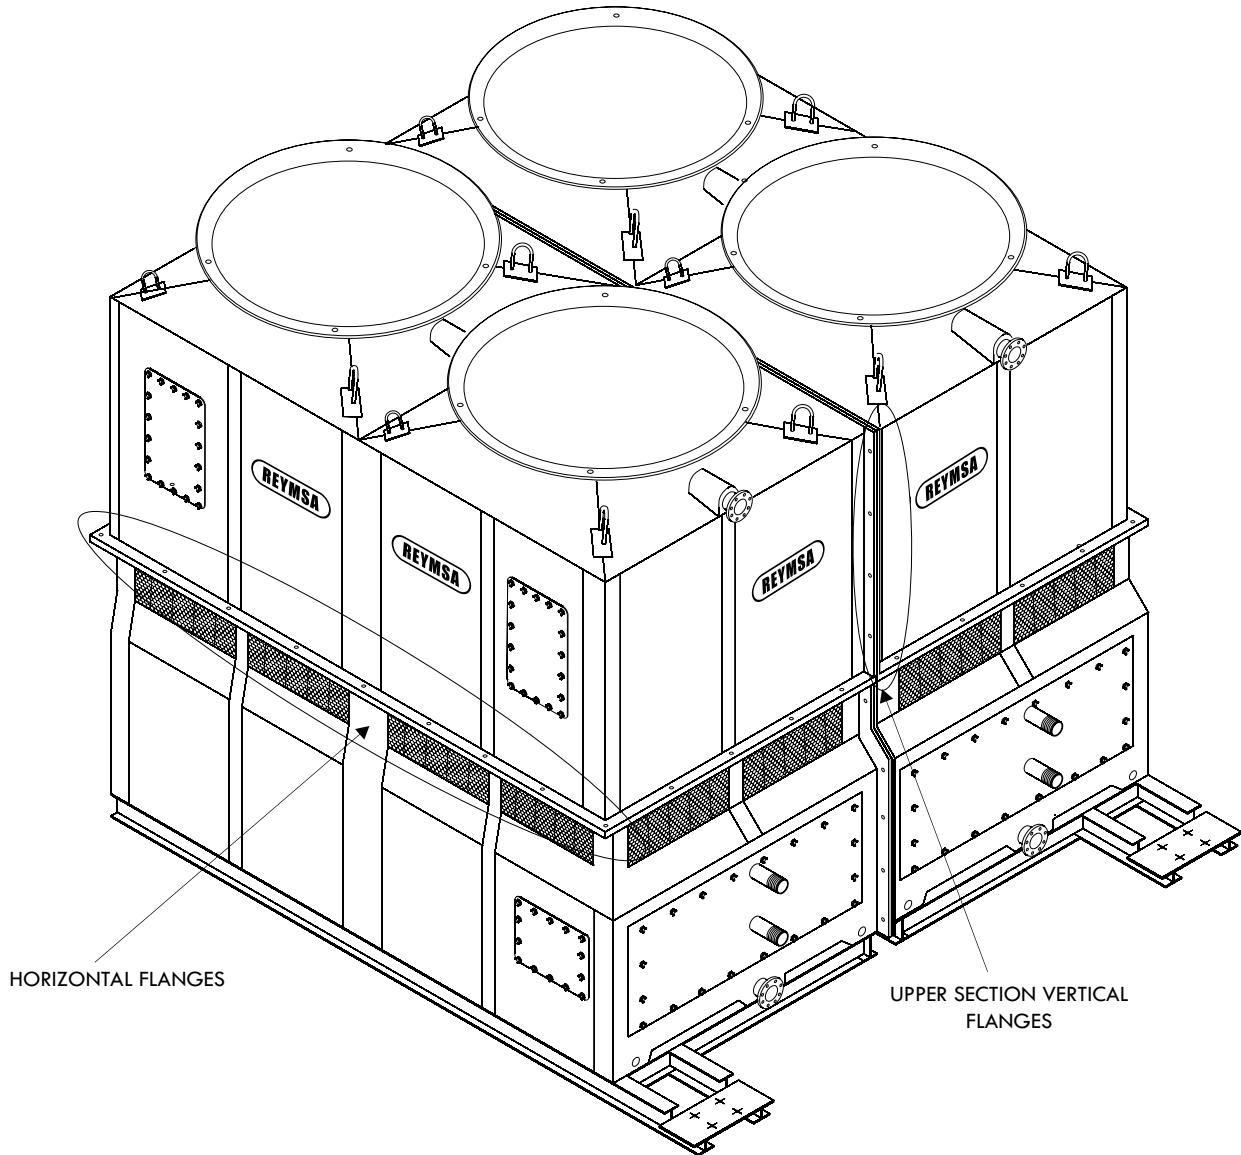

Figure A-25: Upper Section 1 & 2 for quadruple fan tower on plane
- L. Now with the two upper sections together, proceed to bolt down and secure horizontal flanges with the stainless steel nut and bolts sets supplied by REYMSA. See Figure A-25.